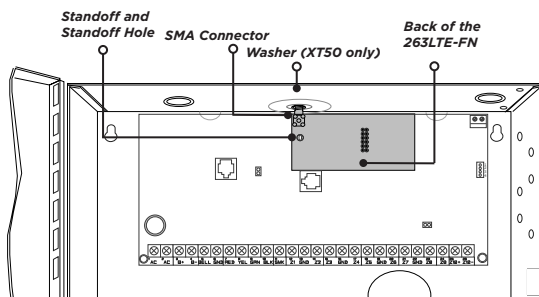

Figure 2: 263LTE-FN on an XT30/XT50 Panel
3. Align the 263LTE-FN SMA antenna connector with the antenna hole in the top of the panel enclosure, place one washer around the connector, and secure it on the 12-pin cell module connector. See Figure 2.